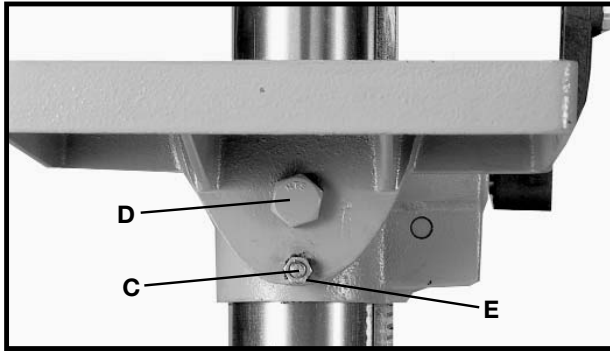

Fig. 22
3. The table can be tilted right or left by pulling out and removing table alignment pin (C) Fig. 22. **NOTE:** If pin (C) is difficult to remove, turn nut (E) clockwise to pull pin out of casting.